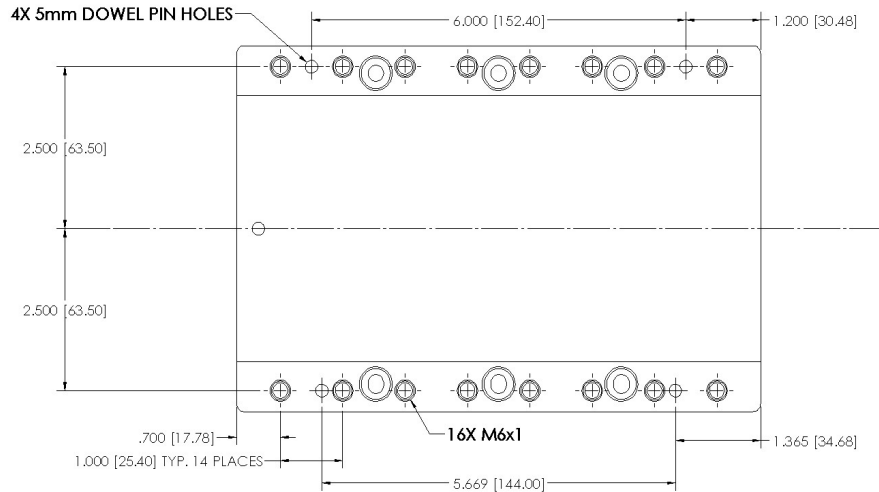

Figure 1: Carriage bolt hole pattern
The bolt pattern on the Carriage has been designed to facilitate process equipment installation. The Carriage has (16) sixteen M6x1 mounting holes with a depth of 0.40 inch (10 mm) to provide secure attachment points. The mounting holes are spaced 5 inches (127 mm) across and on 1 inch (25.4 mm) centers along the length of the Carriage. (See Figure 1) The Carriage also has (4) four 5mm dowel pin holes to facilitate alignment. (See Figure 1 for location) These dowel pin holes are oversized to allow the pins to be glued into place using Loctite 609, or equivalent. **Only utilize 4 of the M6x1 mounting holes; using more than 4 may cause warping of the carriage.**